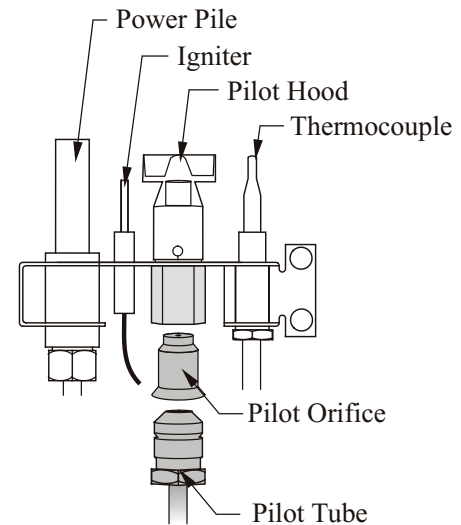

Figure 3. The Pilot assembly. Unscrew the pilot tubing carefully to access the pilot orifice.
7. While you have the rear burner removed, carefully unscrew the pilot tubing and remove the pilot orifice. Replace it with the new orifice supplied with this kit. Re-attach and tighten the pilot tubing, taking care not to damage the tubing by overbending or pinching it. (See figure 3.)